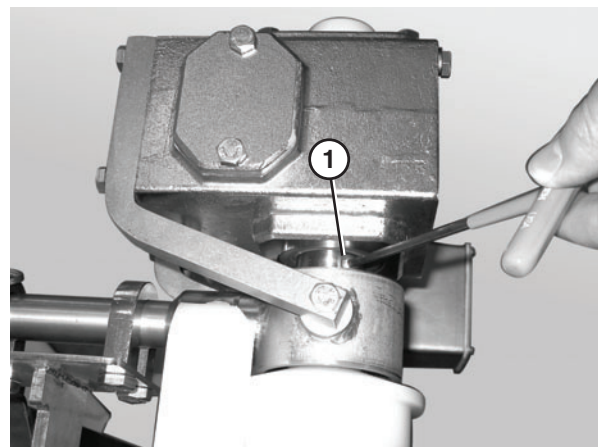

Figure 68
- Loosen the button head screws (**Figure 68, item 1**) that connect the gearmotor to the drive spindle.